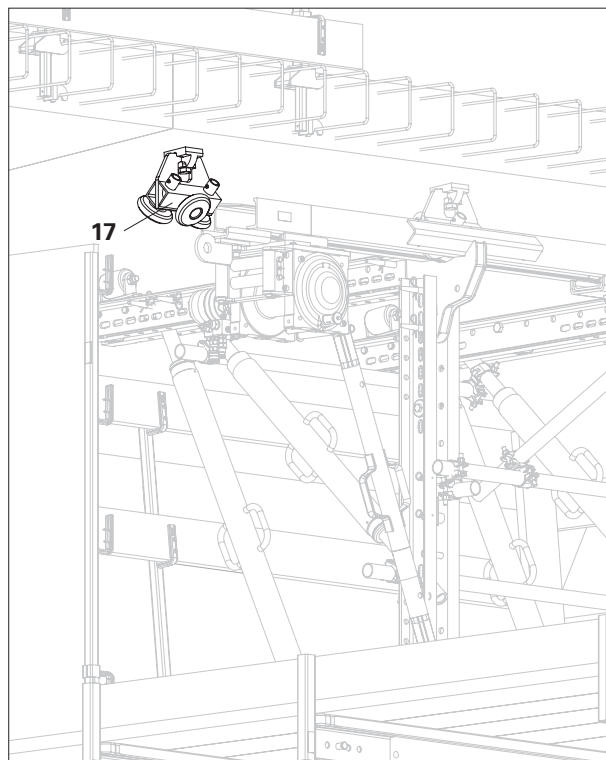

Fig. 24
1. Screw Suspension Head M24 VARIOKIT (16) into the Anchor Sleeve M24.
2. Attach the Roller Unit VARIOKIT (17).
3. Move the VGB Parapet Track up to the next anchor sleeve. (Fig. 24)